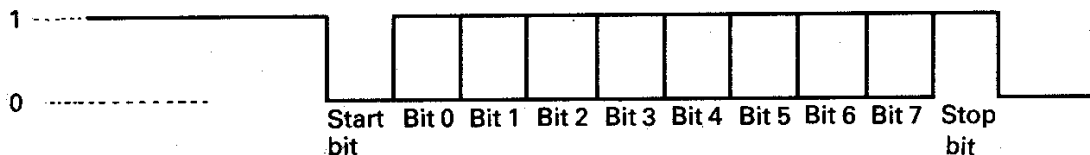

Fig. B-1 Data Format for Asynchronous Communication
- (1) With asynchronous data transmission, a start bit (0) is attached to the beginning of the send data to indicate that transmission has begun. As shown in Fig. B-1, the line level is held to "1" when no data is present; the beginning of data transmission is indicated by the dropping of the line level to "0".